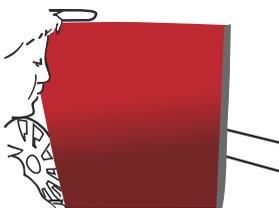

Figure 08
- › Remove the whole liner. (FIG. 08)